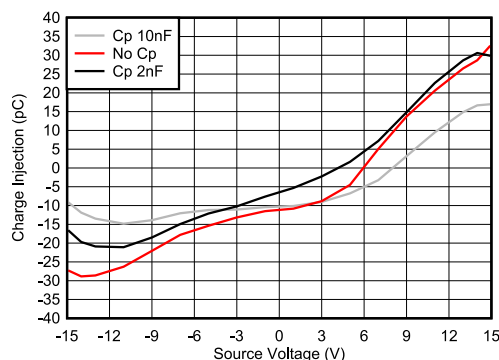

Figure 7-2. Charge Injection Compensation
The TMUX7234 contains specialized architecture to reduce charge injection on the source (Sx). To further reduce charge injection in a sensitive application, a compensation capacitor (C_p) can be added on the drain (D). This will ensure that excess charge from the switch transition will be pushed into the compensation capacitor on the drain (D) instead of the source (Sx). As a general rule of thumb, C_p should be 20x larger than the equivalent load capacitance on the source (Sx). Figure 7-2 shows charge injection variation with different compensation capacitors on the drain side. This plot was captured on the TMUX7219 as part of the TMUX72xx family with a 100pF load capacitance.